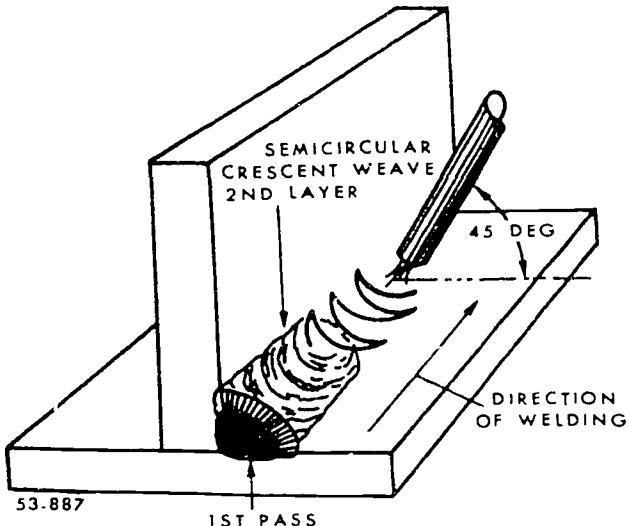

Figure 3-33. Multipass fillet weld weave motion.
**Light plates.** 1/4 inch or less, can be welded with a fillet weld with one pass, with little or no weaving of the electrode. Welding of heavier plates may require two or more passes, in which each pass after the first is made in a semicircular weaving motion, as shown in figure 3-33. A slight pause at the end of each weave will insure good fusion between the weld and the base metal